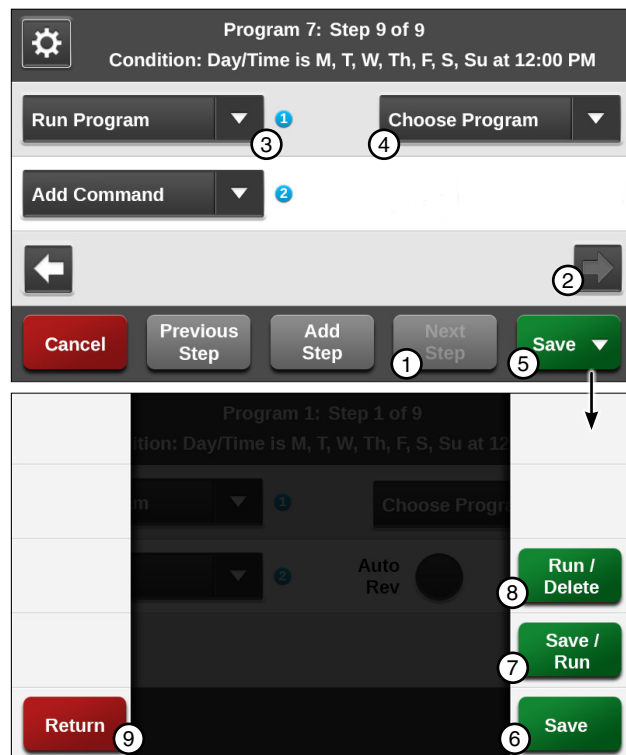

Figure 100-2 1. Next Step
4. Push the **Next Step** button until you reach the last step of the program as shown in Figure 100-2.
7. Select the **Choose Program** drop-down menu and choose the program that you want to run. Refer to Figure 100-2.